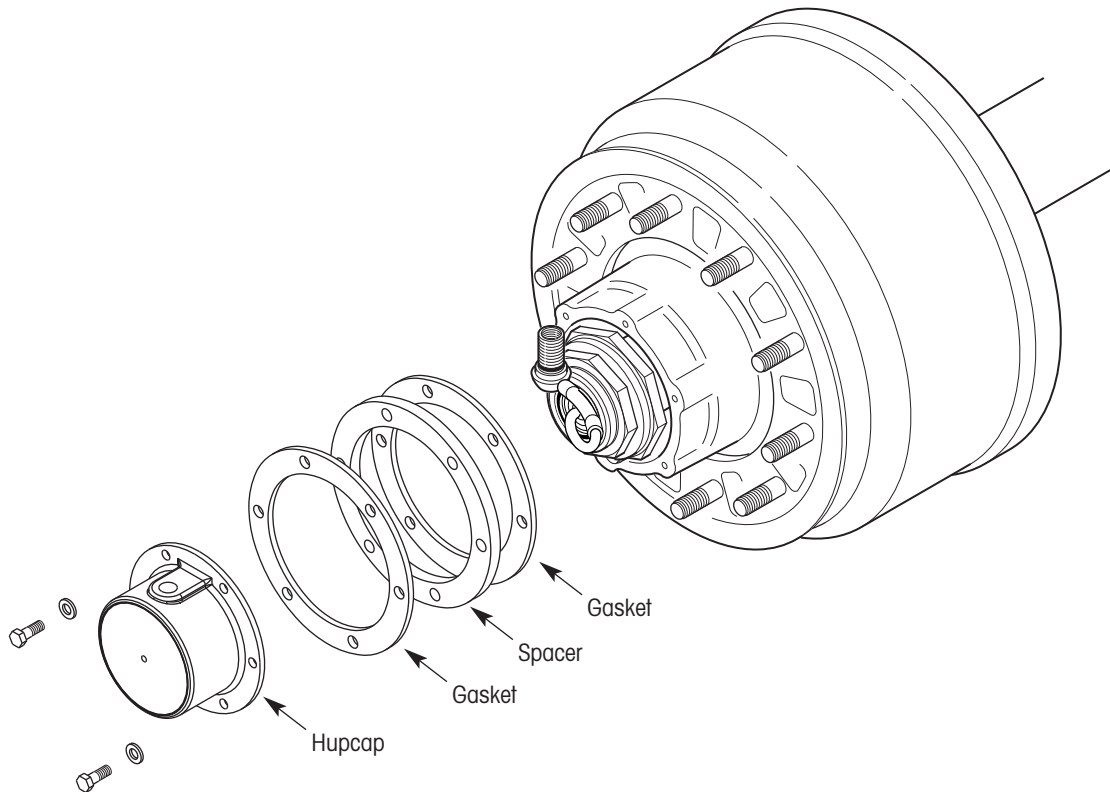

Figure 3. Hubcap spacer kit installation
1. Sandwich the spacer between two gaskets as shown in figure 3.